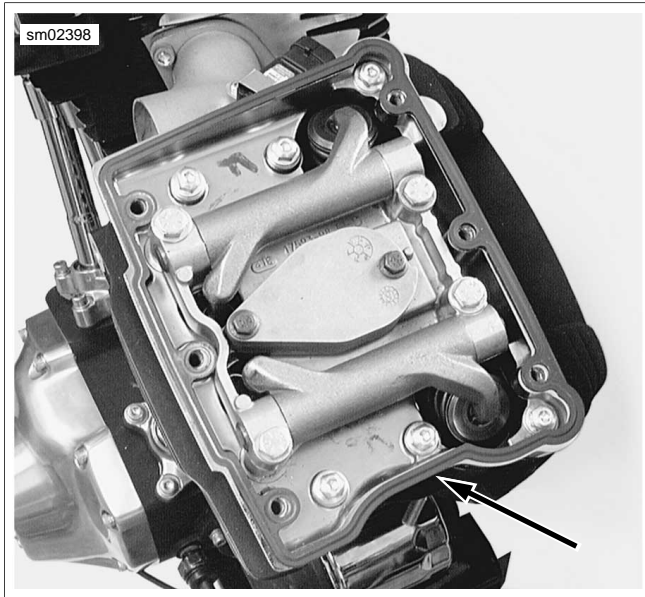

Figure 3-44. Rocker Cover Gasket Indent (Front Cylinder Shown)
2. See Figure 3-44. Install a **new** rocker cover gasket with indent facing forward on the rocker housing flange. Place the rocker cover into position aligning the holes in the cover with those in the gasket.